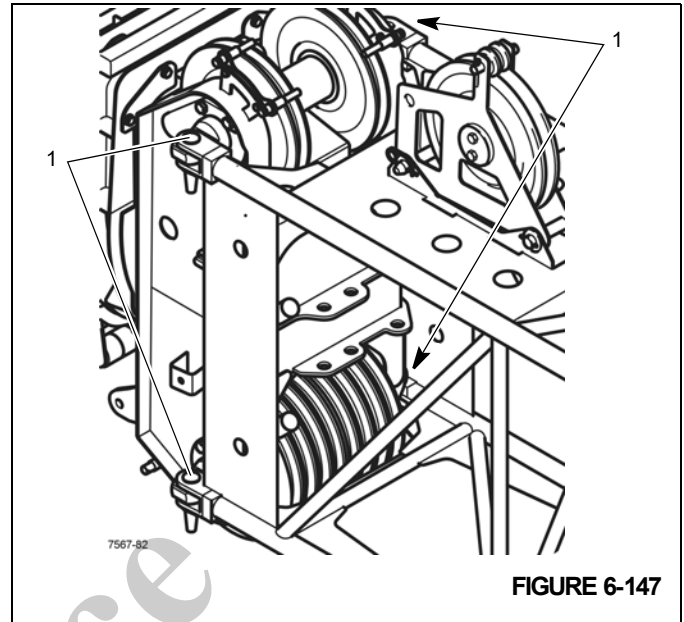

FIGURE 6-147
4. Lift the insert in front of the main boom head so the four connecting points (1), (Figure 6-147) align on both sides.
6. Insert the pins into the connecting points (1), (Figure 6-147) and secure them with retaining clips.
5. Remove the pins from the connecting points (1), (Figure 6-147).